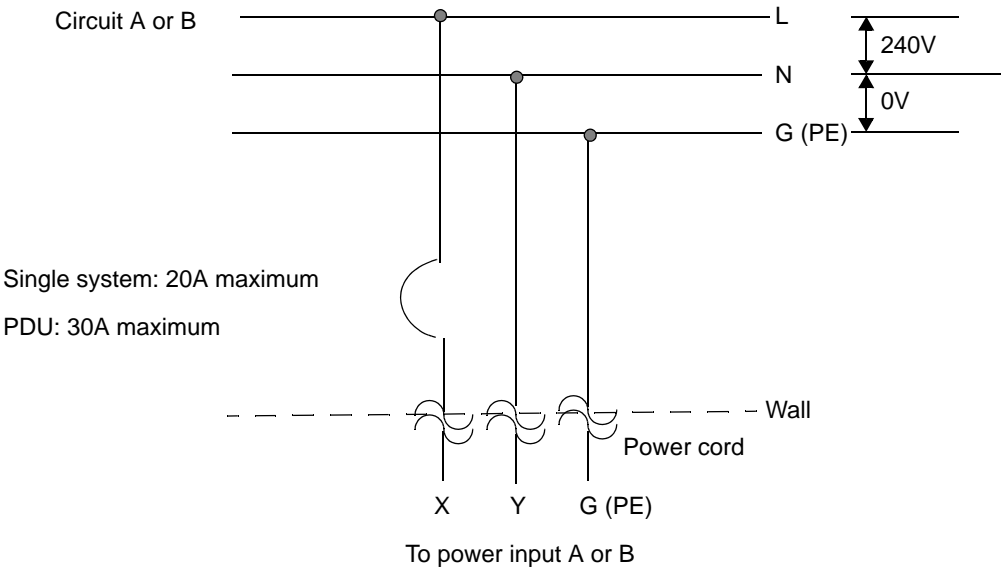

Figure B-3. Single-Phase 240-VAC Circuit Connection
- Figure B-3 illustrates a single-phase 240-VAC circuit connection.
Figure B-3 illustrates a single-phase 240-VAC circuit connection. Note that this application requires a single-pole circuit breaker.